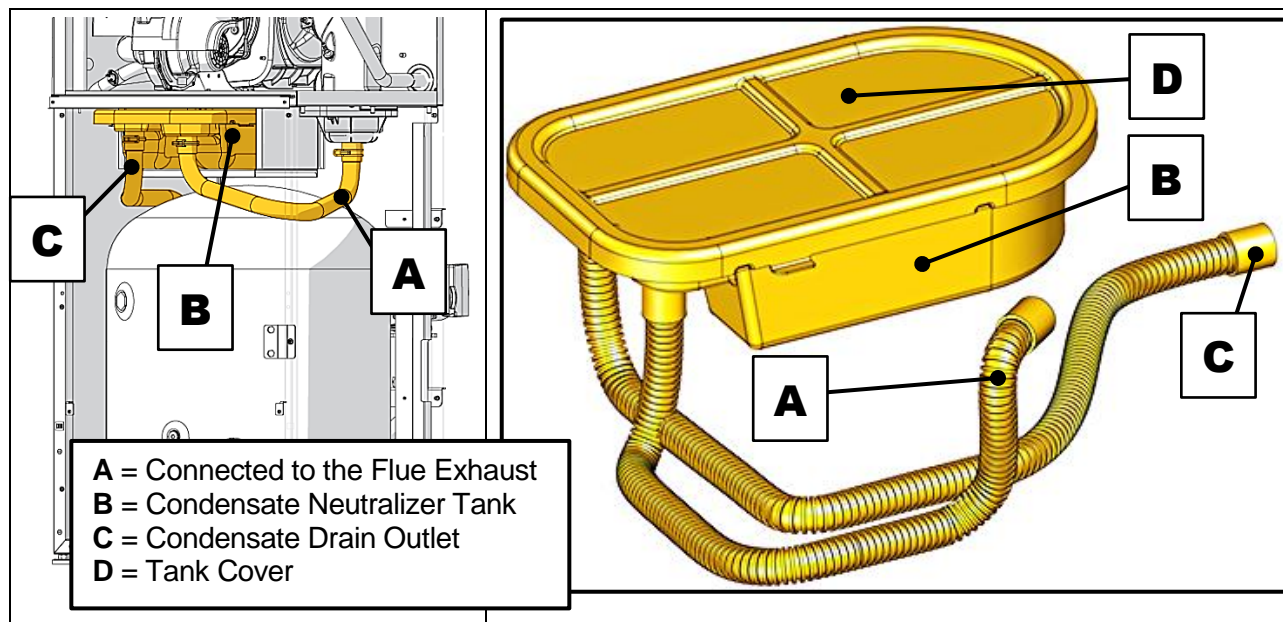
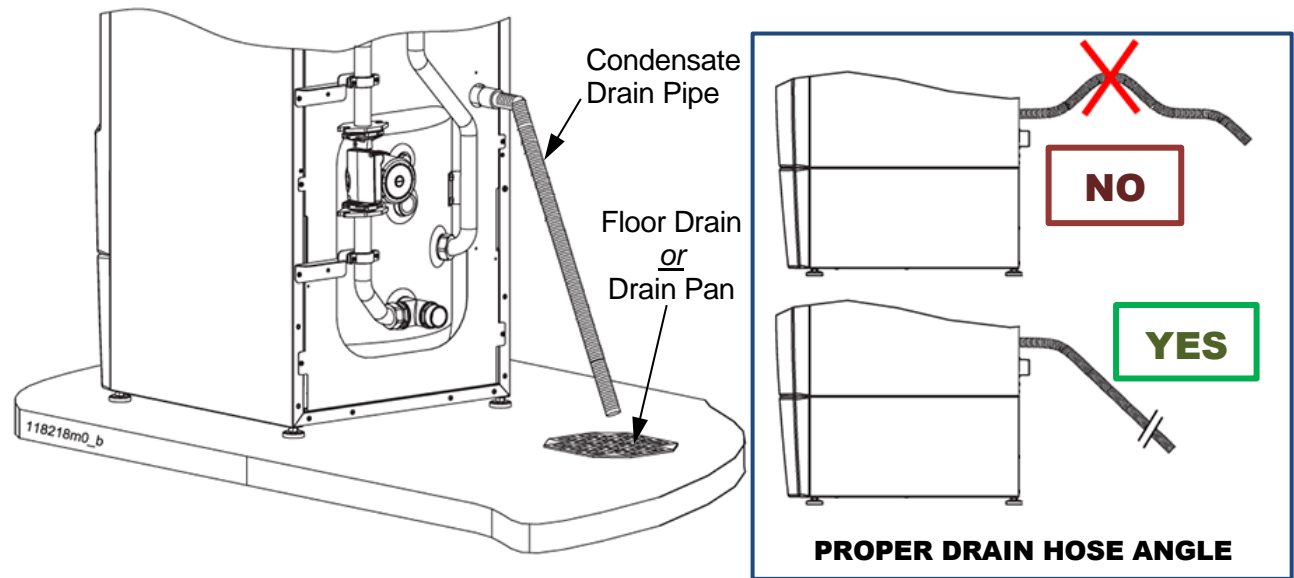

Figure 4-8: Condensate Neutralizer Tank
Figure 4-9: Condensate Tank Drainage
The condensate trap, as shown in Figure 4-8, item “B”, MUST be filled with water or combustion gases will enter the room. The condensate neutralizer tank must be installed into the unit, exactly as shown in Figure 4-8. Do NOT remove the condensate neutralizer tank from its position while the unit is in operation, as this will result in combustion gases entering the room, which can result in excessive levels of carbon monoxide.
The unit is equipped with a condensate neutralizer tank for the evacuation of condensate and to prevent the leakage of combustion products. The condensate drains from the flue exhaust outlet “A” (Figure 4-8) through pipe to condensate neutralizer tank, drains through hose “C” and then out the drain pipe (Figure 4-9), and empties into the floor drain or drain pan (Figure 4-9). The condensation disposal system must:
- slope the condensate tubing down and away from the water heater, without any subsequent elevation, into a drain or drain pan (See Figure 4-9). Condensate from the water heater will be slightly acidic (around pH 4). The neutralizing tank (see Figure 4-8, item “B”) is built into the water heater and will neutralize the condensate products;
- be properly pitched towards the point of discharge avoiding high points (Figure 4-9), which could place the condensate system under pressure;